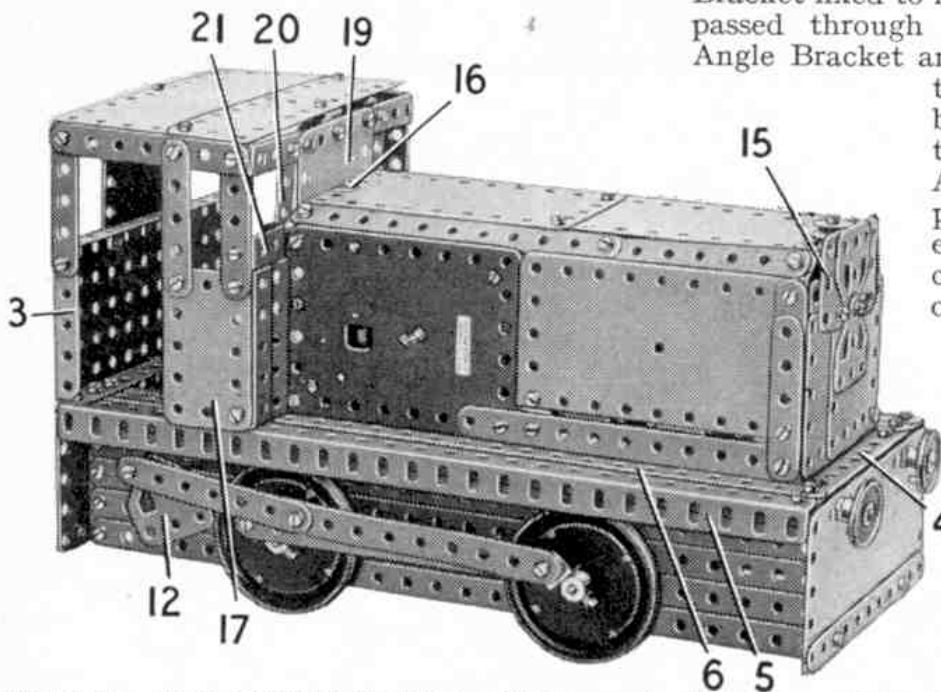
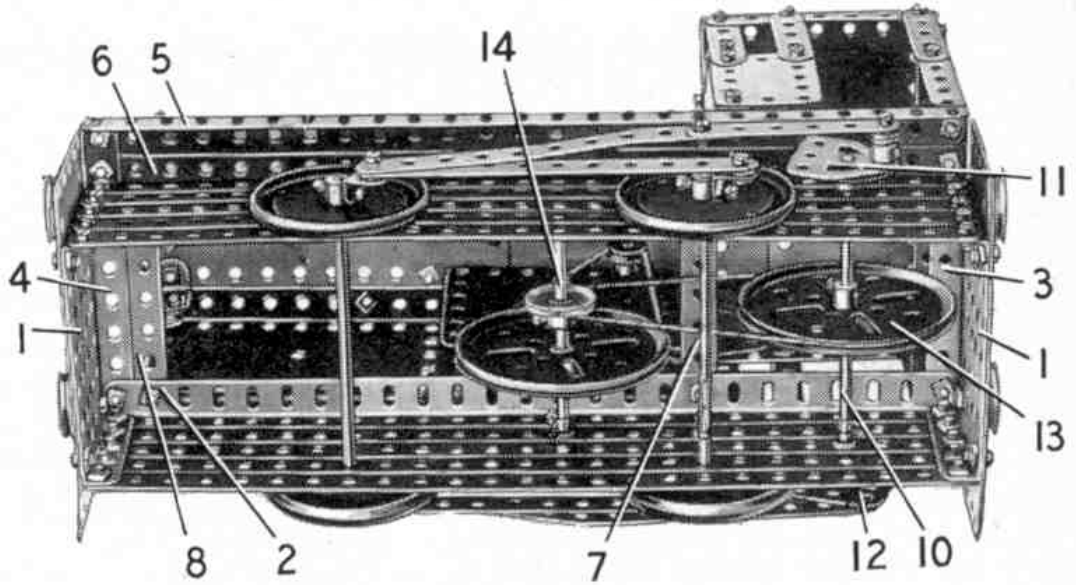

Fig. 1. A model of a diesel locomotive designed for construction from Outfit No. 6.
Fig. 2. An underneath view of the locomotive showing the pulley and belt reduction drive to the wheels.
**O**UTFIT No. 6 contains all the parts required to build the sturdy diesel locomotive shown in Fig. 1 on this page. The model represents one of the powerful locomotives used mostly for shunting purposes in large industrial works and docks.
The sides of the engine housing are attached to  $3\frac{1}{2}'' \times \frac{1}{2}''$  Double Angle Strips 7 and 8 bolted to the Angle Girders 2. The side seen in Fig. 1 is made by bolting a No. 1 Clockwork Motor to Double Angle Strip 7, Fig. 2, and to an Angle Bracket fixed to the Girder 2. The Motor side-plate is extended forward by a  $5\frac{1}{2}''$  Strip and one half of a Hinged Flat Plate, and the front ends of these parts are edged by two  $2\frac{1}{2}''$  Strips overlapped four holes and bolted to the Double Angle Strip 8.